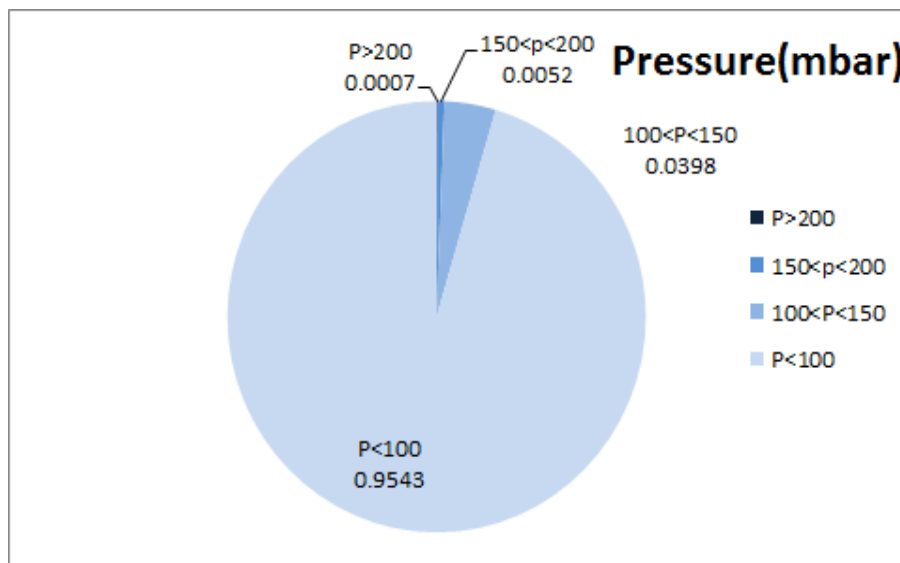

Figure 1- Pressure distribution over the working hours
- As depicted in Figure 1, only 0.07% of total working-time pressure is above 200 mbar and 0.5% above 150mbar. So it can be concluded that operation of this filter is reasonably acceptable in this condition.